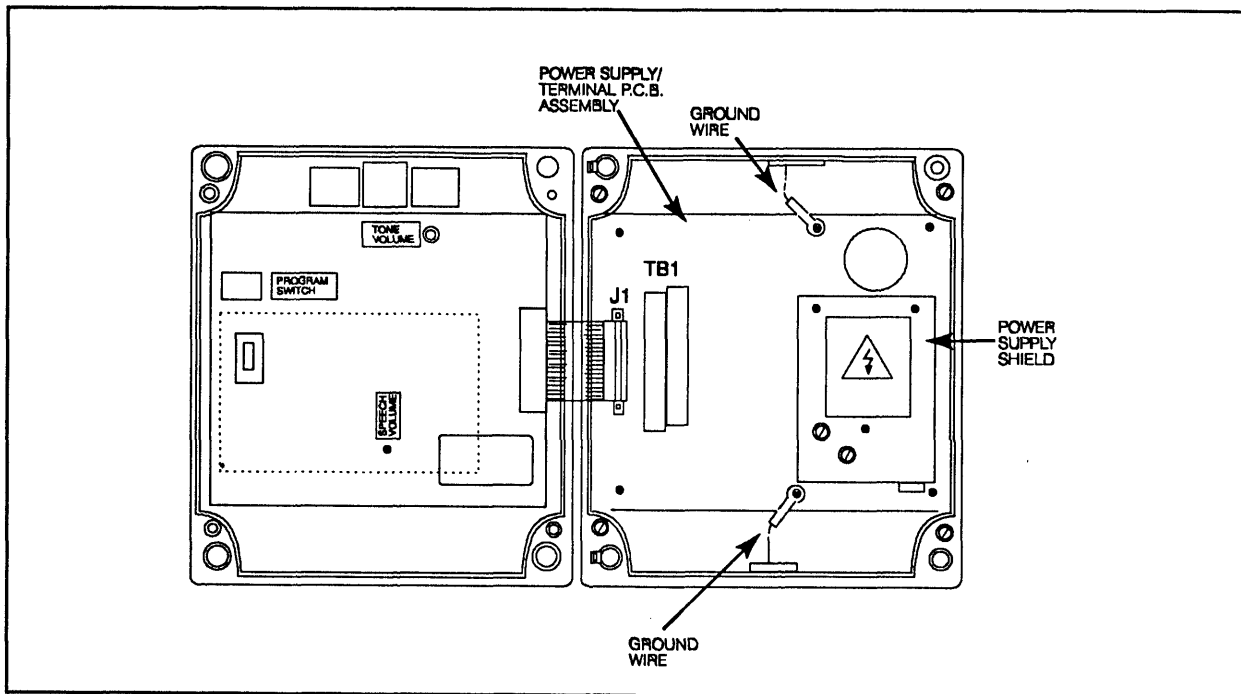
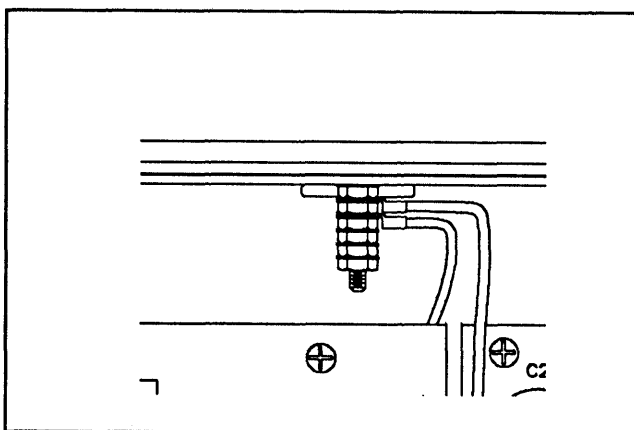

Figure 1. Removal of old power supply and terminal board
Figure 2. Top plate detail
5. Disconnect the green/yellow ground wire(s) from the PC Board. Some older models of the TS958 have a different top grounding plate, like the one shown in Figure 1. Other units have the type of top ground plate shown in Figure 2.
1. Attach ground wires to top ground plate as shown in Figure 2.